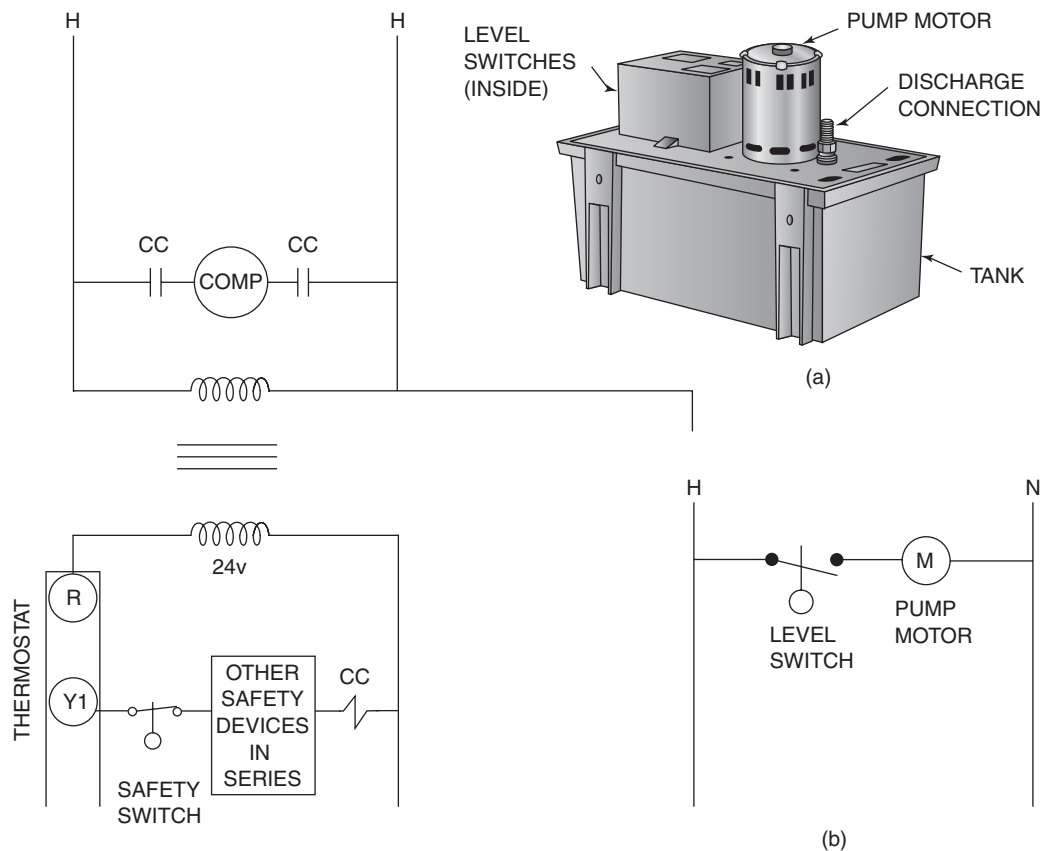

FIGURE 28-9 Condensate pump.
that event, the condensate is allowed to drain into a condensate pumping unit (Figure 28-9). This unit has a level control that operates a pump motor. When the tank is almost full, the level switch closes, the pump motor starts, and the unit pumps the water out of the tank. When the tank is emptied, the level switch opens and turns off the pump.
6. Referring to Figure 28-9, it's a hot, humid day. The pump motor fails. What complaint would you expect from the customer?
7. The compressor motor in Figure 28-9 operates at 220 volts. At what voltage does the pump motor operate?
8. Once the pump motor starts in Figure 28-9, what shuts it off?